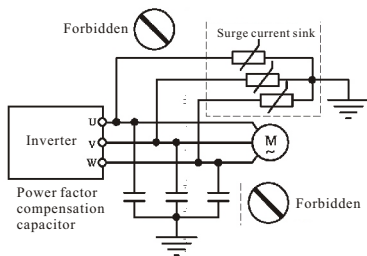

Figure 1-3
- The output voltage of inverter is PWM impulse wave. DO NOT install a capacitor or surge current sink (i.e., a varistor) in the inverter output port. Otherwise, there is the danger of fault tripping of the inverter or damage to its power elements. DO remove such kind of things if already installed. See the Figure 1-3 below.